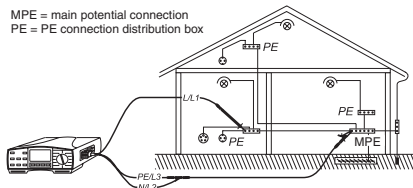
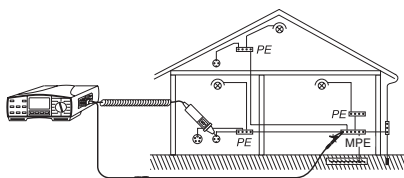

Figure 10: Connection of Test Leads
Figure 11: Connection of COMMANDER 2
- ▶ Connect the test leads to UUT in accordance with Figure 10 or Figure 11. If desired, this connection information can directly be retrieved on the measurement instrument using the key 'HELP'. Repeated pressing of the key 'HELP' indicates the various options for connection.